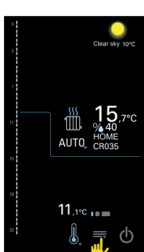

Fig.29A
9.3.1 Follow  to set holiday setup; Fig.29A - Fig.29C